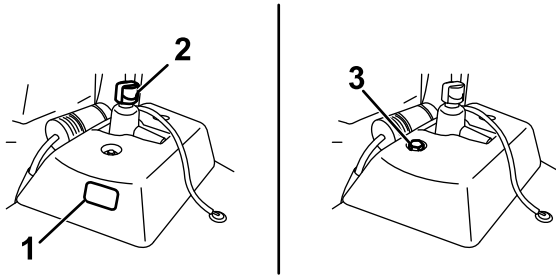

Figure 48
- If the auxiliary hydraulic tank has a sight window, check the oil level there (Figure 48), and proceed to step 5.
top of the machine (Figure 48) and proceed to step 3.